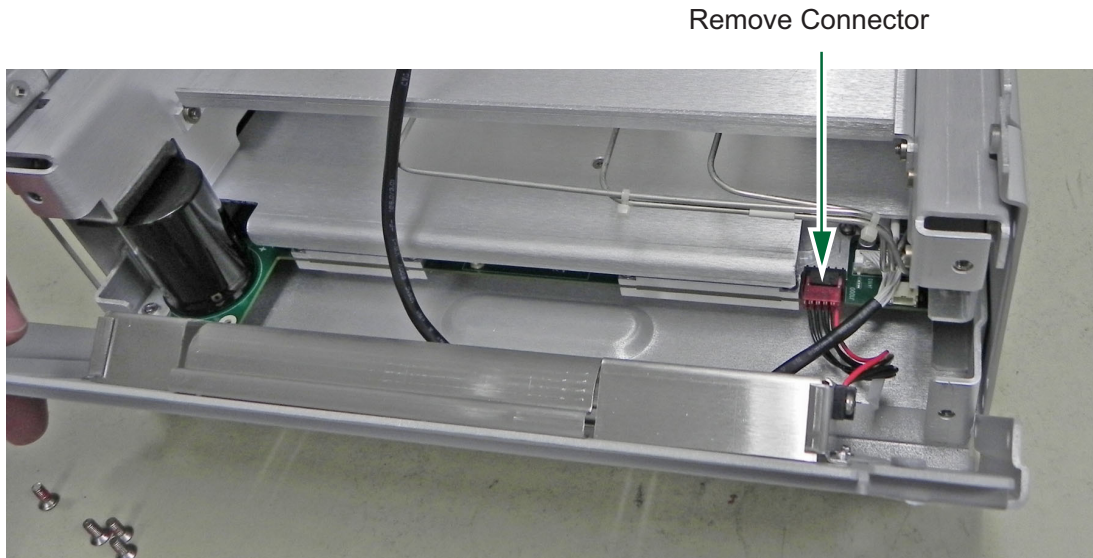

Figure 5-24. Remove Bottom Panel
6. Lower the bottom panel and disconnect the battery cable (Figure 5-24).